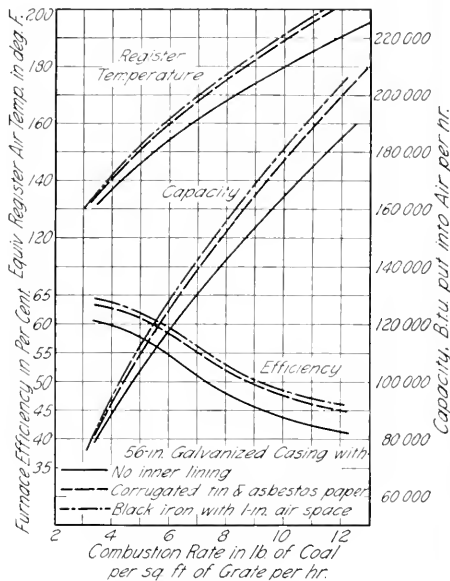

FIG. 5. PERFORMANCE FOR TESTS OF CORRUGATED-TIN AND BLACK SHEET-IRON LININGS
**Bright Tin and Asbestos Paper Lining.**—A second comparison was made to show the relative value of (a) the 1-inch air space with black-iron lining and (b) a corrugated bright-tin lining backed with asbestos paper, pasted to the casing. In Fig. 5 the performance curves for furnaces having the two types of lining are shown. As may be observed from Fig. 5 the air-space lining proved the more efficient, the capacity averaging about 2 percent higher than for the asbestos paper and tin lining.